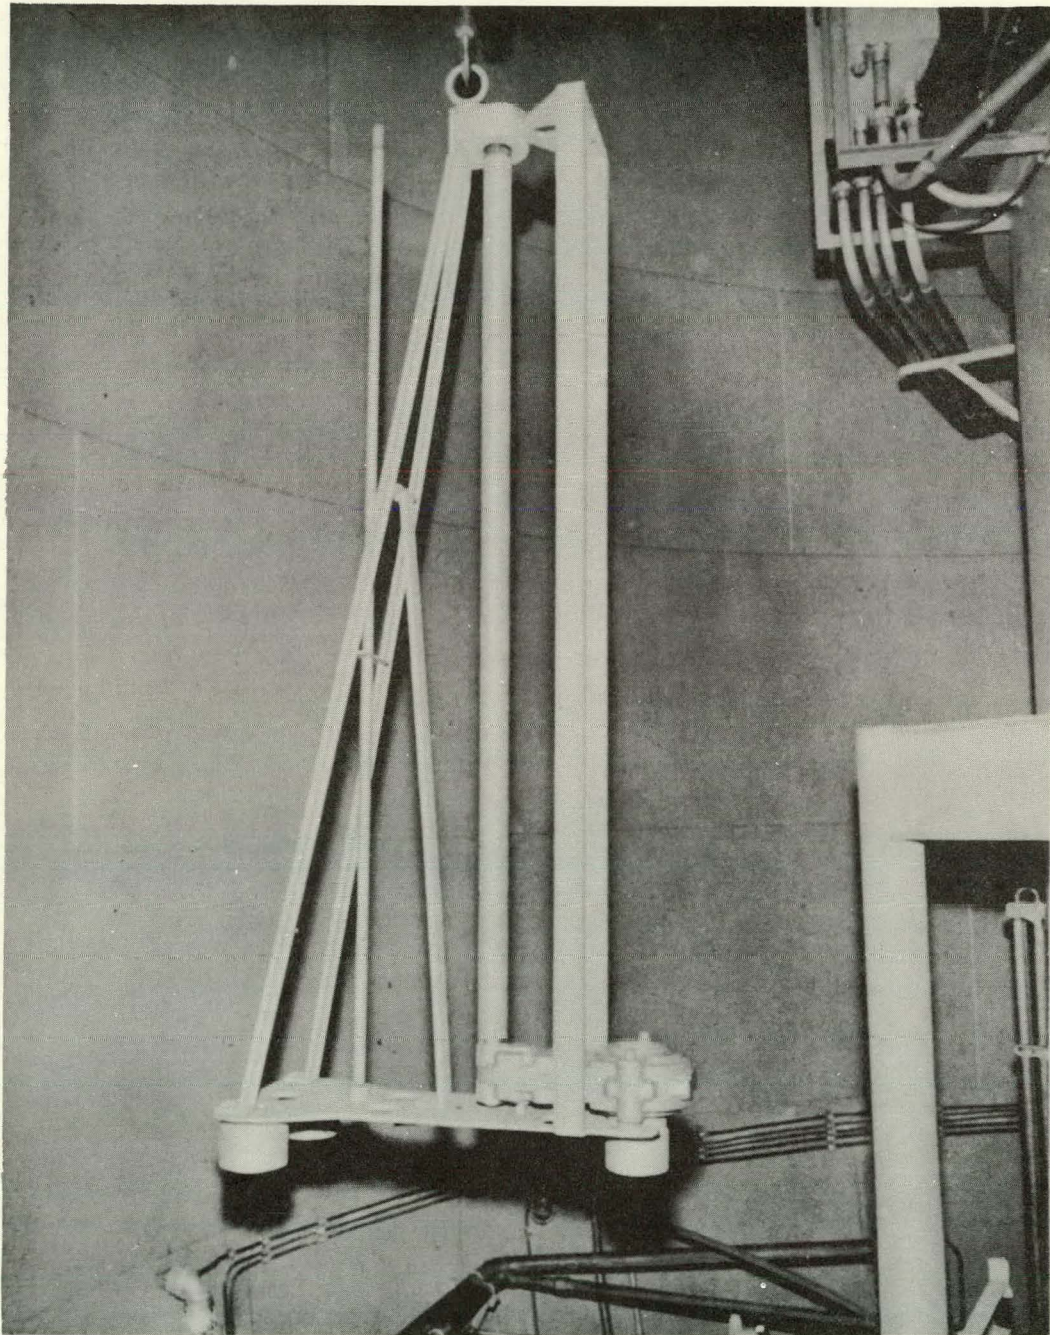

Figure 7-2. Model 9900 Power Wrench Set
2. Tighten two opposite nuts to 100 ft.-lbs. torque with the power wrench (figure 7-2).